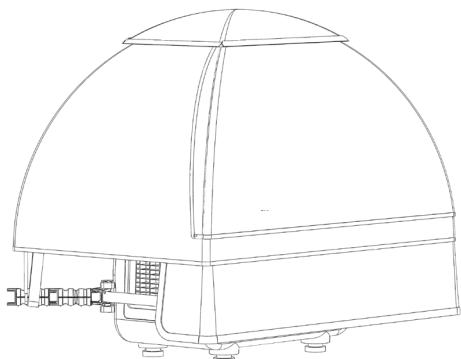

Fig. 4.3
- e. Along the bottom edge of the GenTent Canopy is an over-flap. Flip up the over-flap from corner to corner above the electrical outlets. This will reveal a fastener strip. (Fig. 4.3)